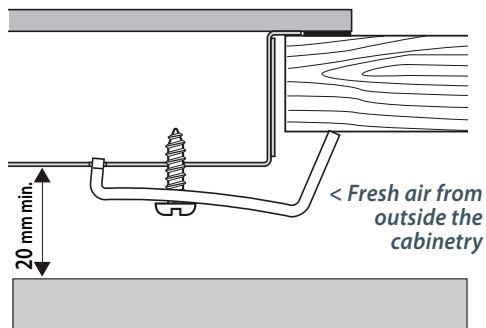

Fig. 1 Thermal protection barrier
- if the cooktop is installed directly above an oven or its base is accessible through a cupboard or drawer space after installation, a thermal protection barrier is installed below the base of the cooktop (see Fig.1)